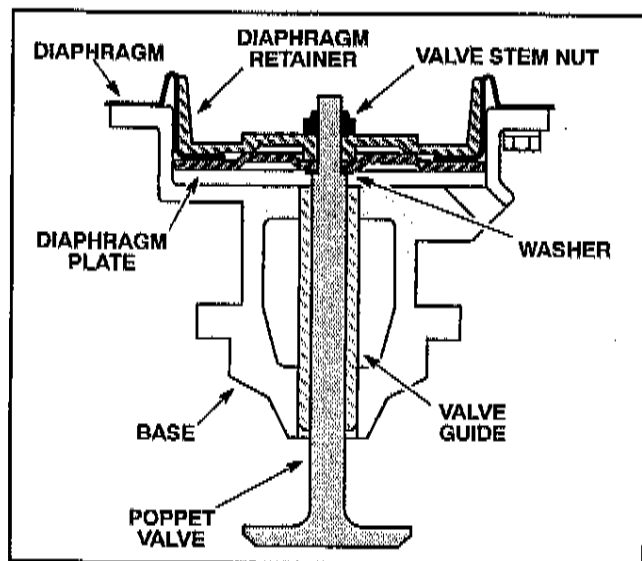

Figure 5.35-22. Wastegate Assembly
1. Insert threaded end of poppet valve stem into valve guide bore at bottom of base assembly (see Figure 5.35-22).